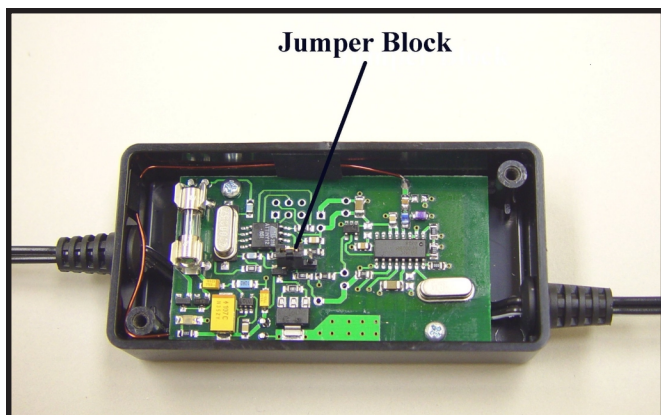

Figure 3
2. Locate the small jumper block shown in Figure 3 below. Gently pull up on the jumper block that is pressed onto one of the pins. Lift it off of the single pin, reposition it over both pins and gently press it down. It is now in the training mode.